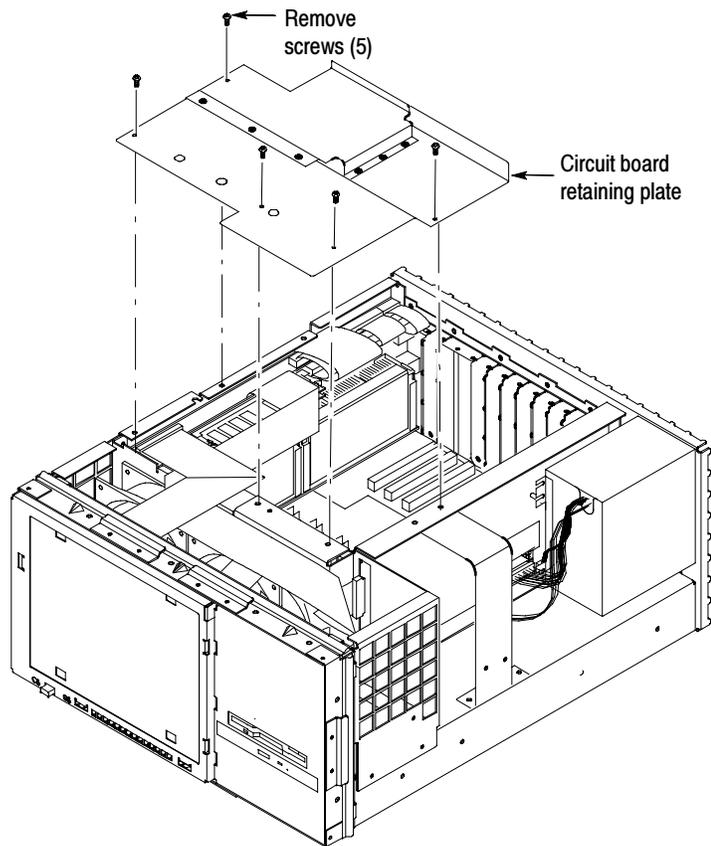

Figure 6: Removing the circuit board retaining plate
7. Set the instrument onto the work surface so the bottom is down, as shown in Figure 6.
8. Remove the five T-15 screws securing the circuit board retaining plate to the chassis and lift it away (see Figure 6).